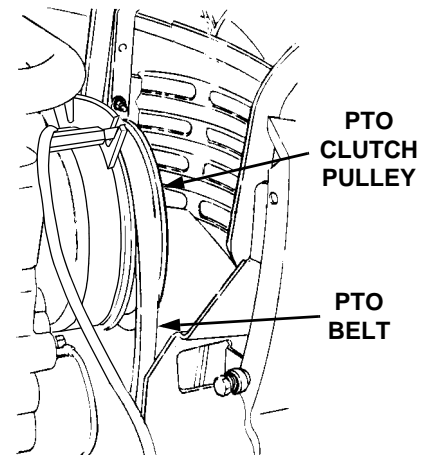

Figure 59
- Pass the PTO belt upward inside the front of the tractor frame and install the forward end of the belt onto the PTO clutch pulley on the front of the engine. Ensure that the narrow side of the PTO belt engages the groove of the clutch pulley (Refer to Figure 59).